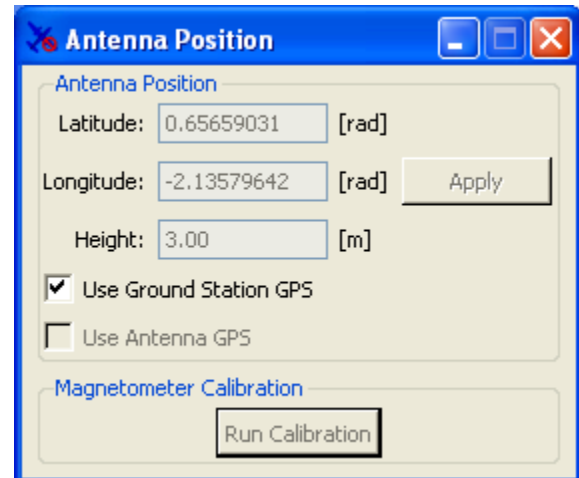

Figure 3 - Antenna Position Dialog
- The ground station GPS can be used by checking the **Use Ground Station GPS** checkbox (**Figure 3**).